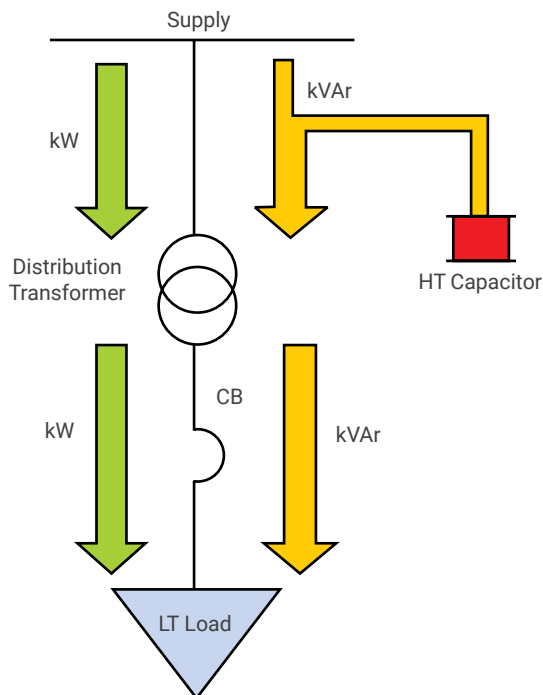
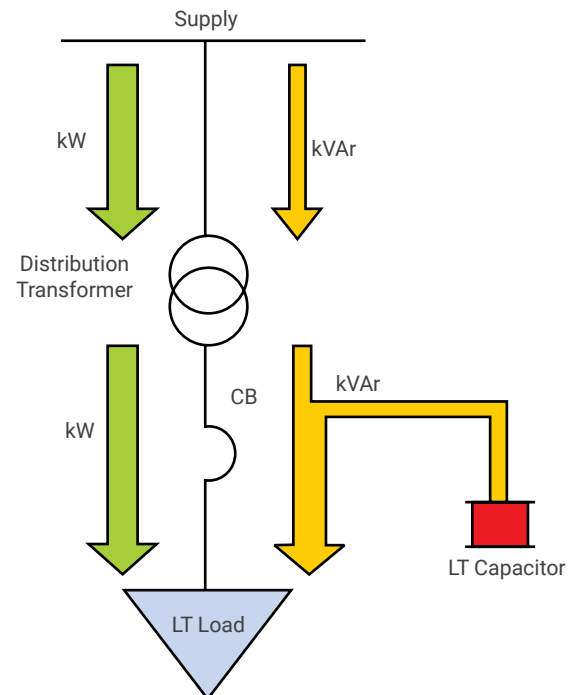

Fig 1: Compensation on HT Side
Fig 2: Compensation on LT Side
the load to meet its magnetic field requirements. The reactive power (inductive) is always  $90^\circ$  lagging with respect to active power as shown in figure 1. Figure 2 & 3 show the flow of kW, kVAr and kVA in a network.
- › Higher kVA demand from supply system as given in figure 2
Consider two cases with compensation provided on HT and LT side respectively as shown in figure 1 and 2.
As seen in fig 1, with the capacitor connected on the HT side, the compensated reactive power flow through the transformer does not reduce and hence there is no change in current flow. Although the HT side power factor is improved, the LT
side power factor remains same. However, as seen in fig 2, connecting capacitor on LT side reduces the reactive power flow through the transformer and we get improved power factor and reduced current flow on both LT and HT sides.